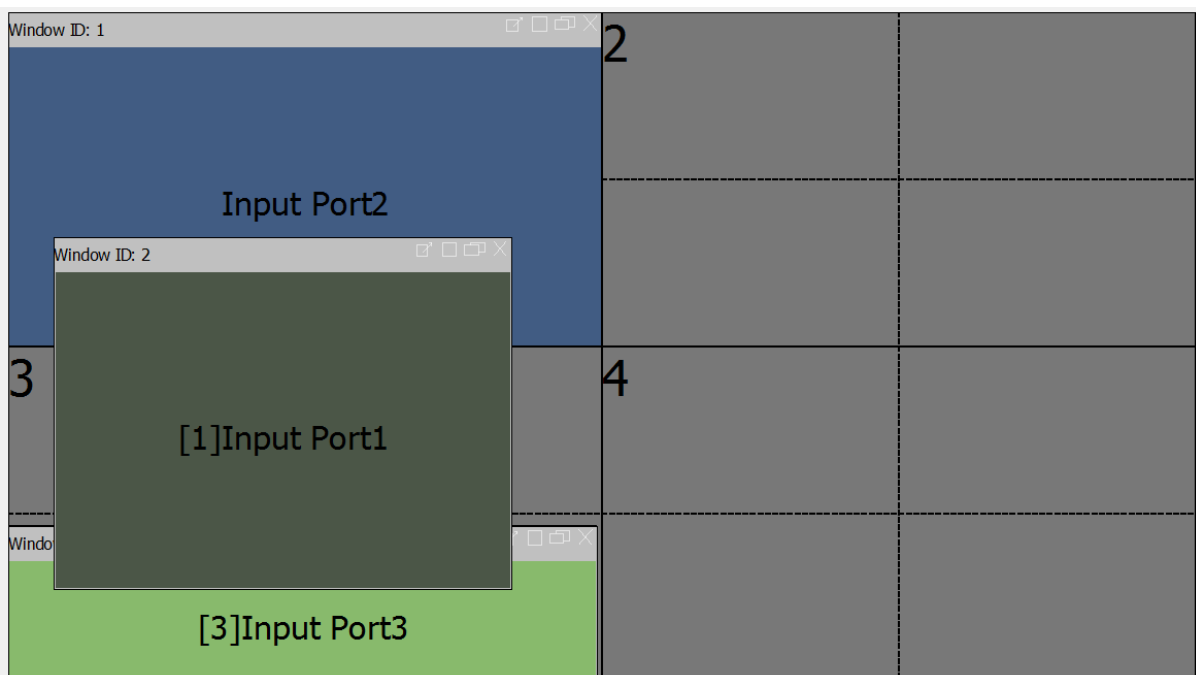

Figure 54: Layer to top example
- Left clicking on this option will mean all inputs will be displayed full screen in the screen location where the top left corner (0,0 pixel) is located in maintaining all current layer settings. The below example shows the result this would have on the setup from figure 54